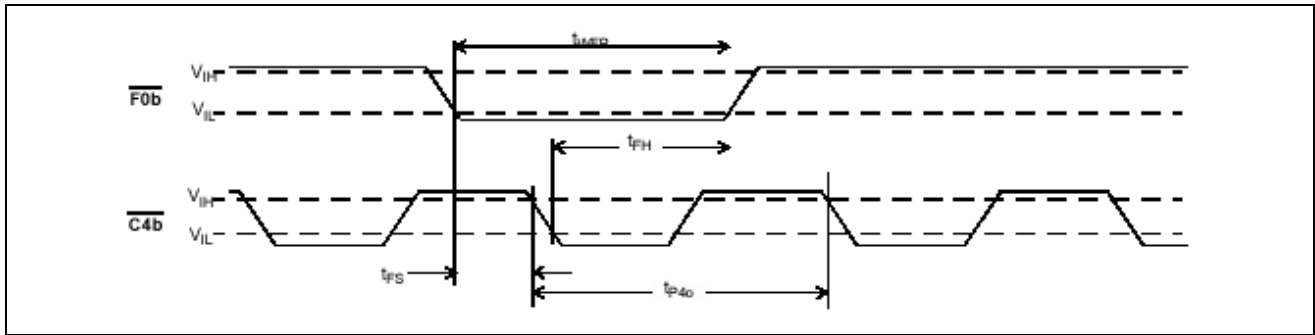

Figure 18 - External Inputs on  $\overline{C4b}$  and  $\overline{F0b}$  for the DPLL #2
**AC Electrical Characteristics†** - Voltages are with respect to ground ( $V_{SS}$ ) unless otherwise stated. (Refer to Figure 18)